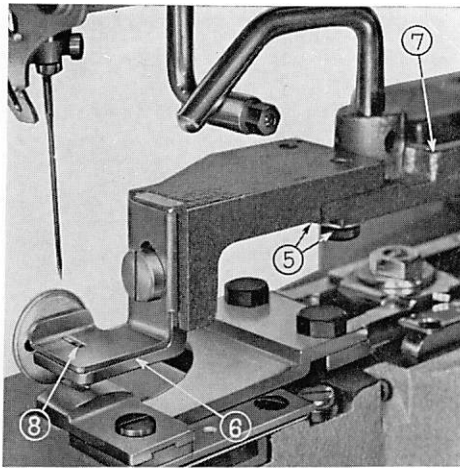

Fig. 37
④ so that the needle falls between the needle groove ② of the metal shank button work support plate ③ and then tighten the screw ⑤.
As the metal shank button adapter ⑥ is a part of the set of the button clamp holder ⑦, attach it to the built-in clamp holder spot, as shown in Fig. 37.
B. To adjust this attachment, first, insert the metal button to be attached to the foot of the adapter ⑥.